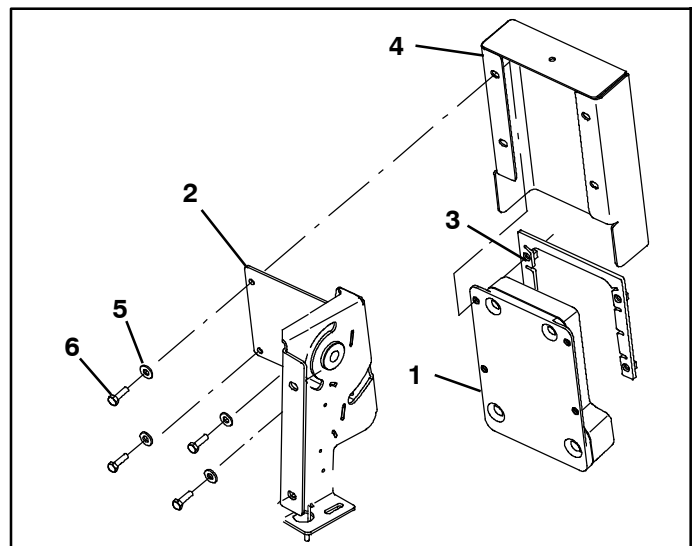

FIG. 5
5. Using parts (3, 4, 5, 6), install the telemetry control box (1) to squeegee lift bracket (2) as shown. (FIG. 5)